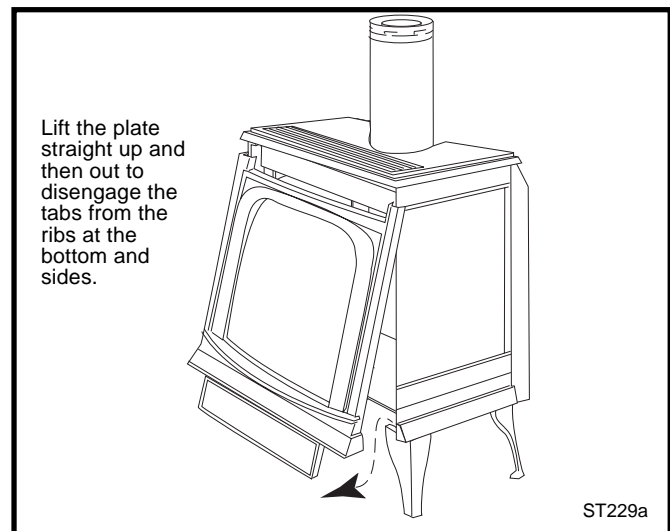

Fig. 59 Remove the Stove Front.
1. Remove stove front. Lift stove front up and then swing bottom out and away to disengage from the stove body. (Fig. 59, Page 31)
2. Lift the Stove Front up and then swing the bottom out to disengage it from the heater shell. (Fig. 59)
1. Remove the Front, Glass Frame and Glass Panel. (Figs. 59 & 60) Remove the old gasket. Use a razor blade to separate the glass and gasket from the frame, and to clean the glass of any remaining cement or bits of gasket. Use a cold chisel if necessary.